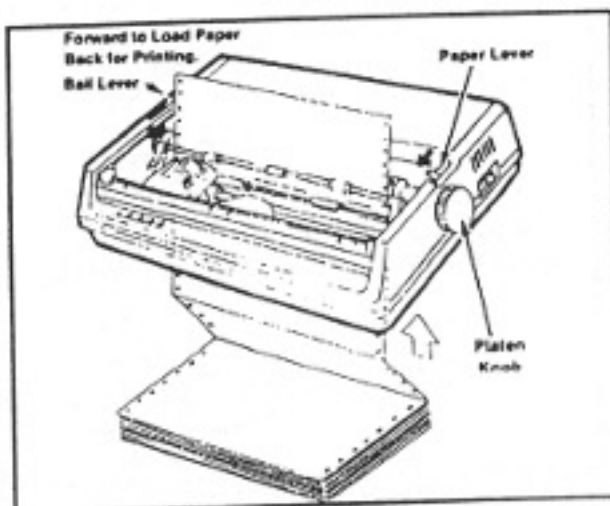

FIGURE 56. Bottom Paper Feed Loading.
4. Lift the bail. (Bail lever forward). The paper lever should be open (forward). Refer to Figure 56.
5. Take the first sheet of paper and feed it through the bottom of the printer and into the paper guides, as per Figure 56.
*NOTE: Adjustable pin feeds should always be set to accommodate 9 1/2" width print paper (P/N 0528-0994). If for some reason pin feed width is not set at 9 1/2", re-set by pushing the pin feed adjustment levers (located just to the outside of each set of pins) forward and sliding the mechanism(s) to the correct 9 1/2" width. Push adjustment levers back into place to lock mechanism in new position. Refer to Figure 56.*
Before operating the printer, verify that the paper has been loaded correctly and the proper indicators are lit as described in "Printer Controls". Also check that bail lever and paper lever are set as shown in Figure 56.